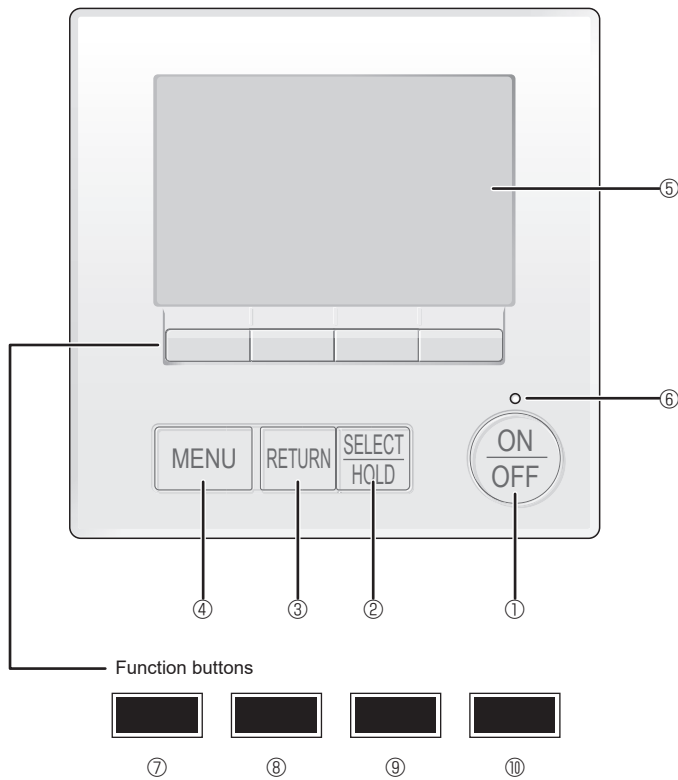

Fig. 7-1
7.2.1. Using wired MA remote controller (Fig. 7-1)
① [ON/OFF] button